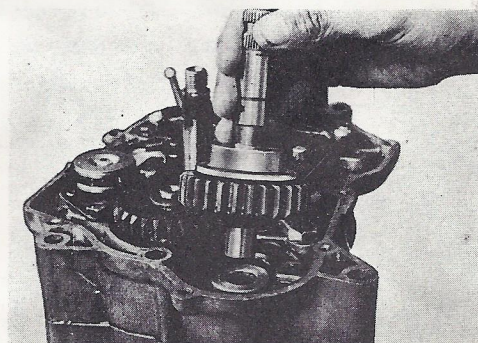

Fig. 3-10-5
- c. Remove the kick starter mechanism in the manner shown in (Fig. 3-10-5.)